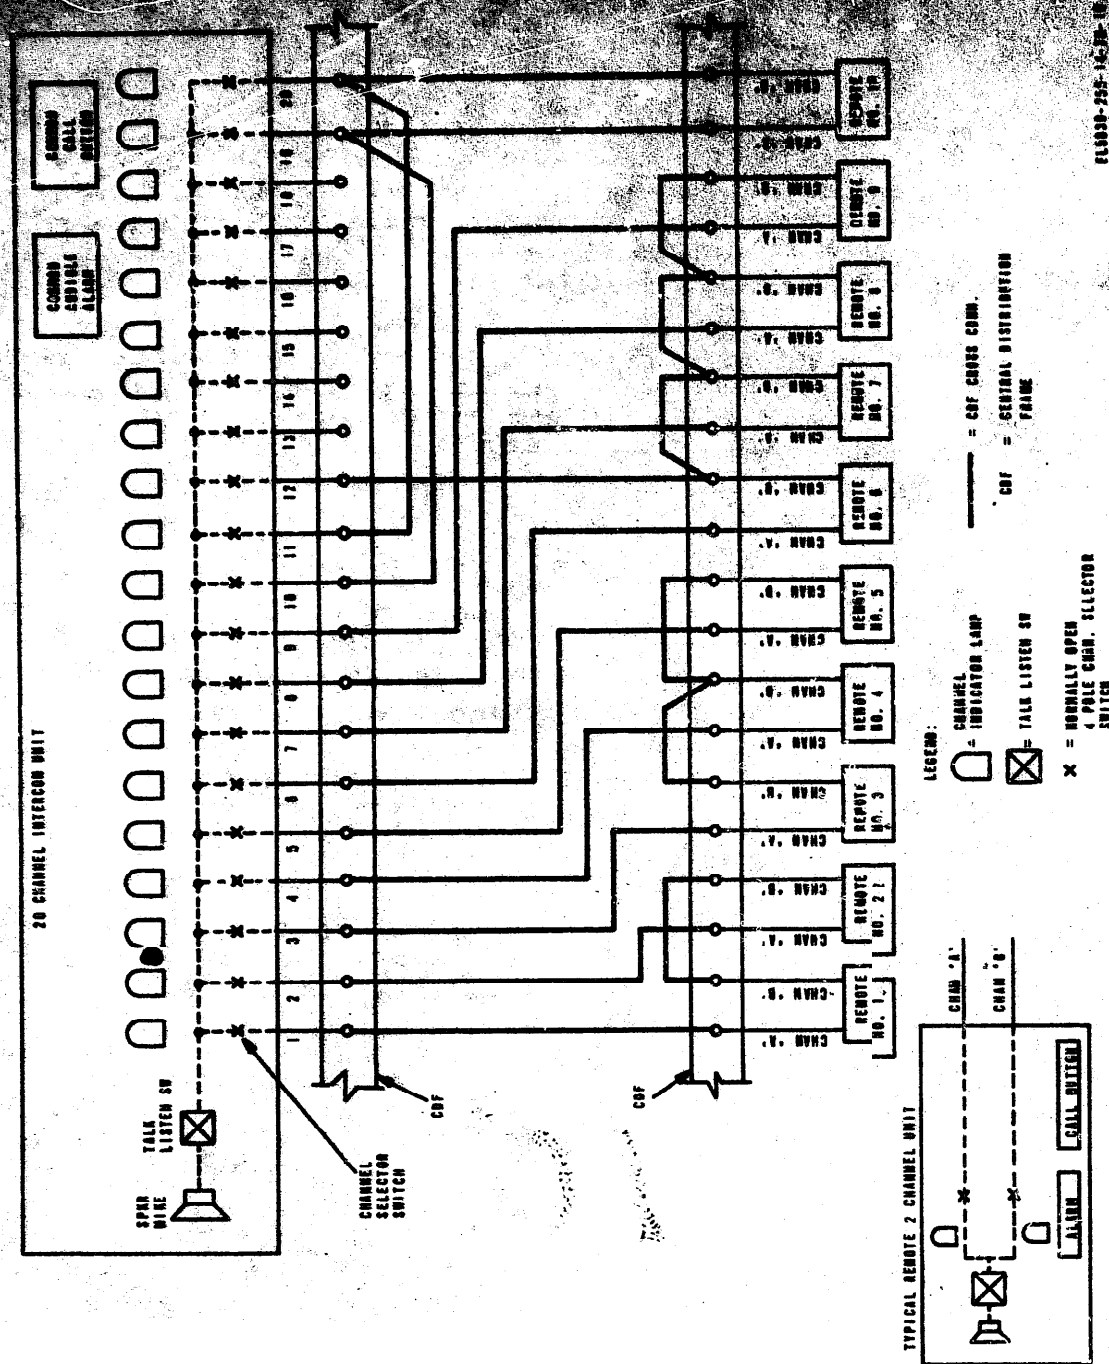

Figure 2-4. Typical intercom cross-connect diagram.
*d. Interconnecting Wiring (fig. 2-4).* All in-